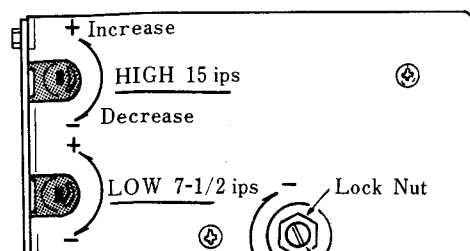
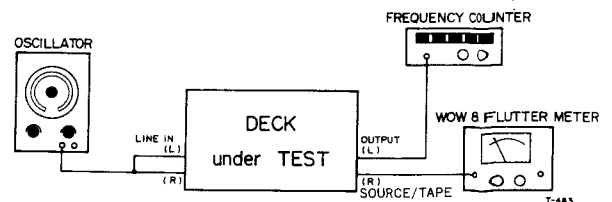

Fig. 8-6 Tape Speed Adjustments
Fig. 8-7 Test Connections for Wow/Flutter and Tape Speed Test
These tapes contain a highly accurate 3,000 Hz tone. Connect a digital frequency counter to either line OUTPUT jack. See Fig. 8-7. The indicated frequency should be 3,000 Hz (± 10 Hz or less) for both speeds. If necessary, adjust Tape Speed adjusters on the CAPSTAN MOTOR. See Fig. 8-6.
1. Connect Test equipment to the unit as shown Fig. 8-7. (Except oscillator).
1. Connect Test equipment to the unit as shown in Fig. 8-7.